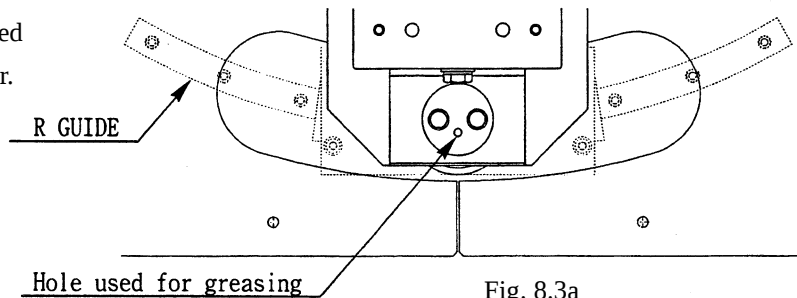

Fig. 8.3a
- ① Remove Rubber Upper A and Rubber Lower from the rear part of the Skate Board.
- ② The hole (through which greasing is applied) is located inside Blind Box A.
- ③ Insert the spray grease nozzle into the hole used for greasing, and perform spray greasing (photo 8.3c and Fig 8.3a).
- ④ Move the Skate Board right&left and ensure that the R Guide is lubricated smoothly and satisfactorily all over.